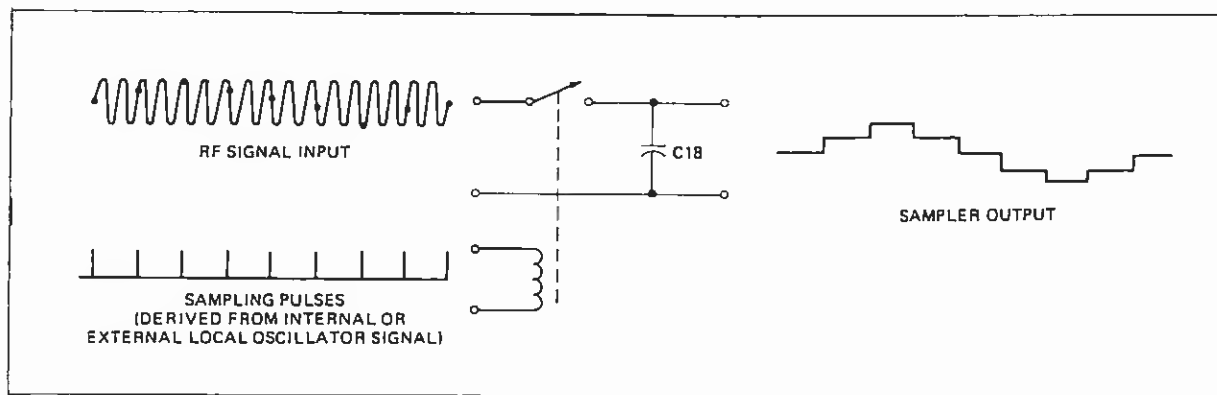

Figure 3-3. Sampling Gate: Simplified Operation
- (2) The operation of the sampling gate is shown in simplified form in Figure 3-3. Each time the sampling gate is closed, by a short-duration pulse, the input capacitance of the sampler amplifier plus any stray capacitance is charged to a voltage that is less than the instantaneous r.f. input voltage. Before the next sample is taken, positive feedback from the sampler amplifier causes additional charge to be placed on this capacitance. Charge is added until the output voltage of the sampler amplifier is equal to the r.f. input at the time the sample was taken. This output voltage is held constant until the next sample is taken. Successive samples are taken until the r.f. waveform is reconstructed at 400 kHz. Additional feedback from the sampler amplifier maintains symmetrical reverse bias on the sampling gate. R10 adjusts the bias magnitude, and R14 adjusts the bridge balance.